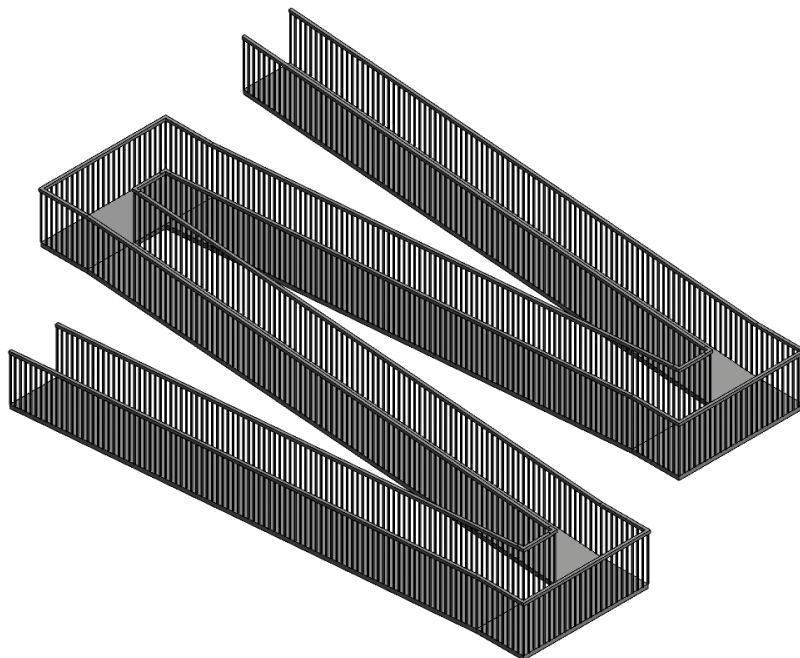

FIGURE 4.29 Ramp runs with associated railings
7. Click Finish Edit Mode to complete the sketch. Open the default 3D view; you should see a similar ramp to Figure 4.29.